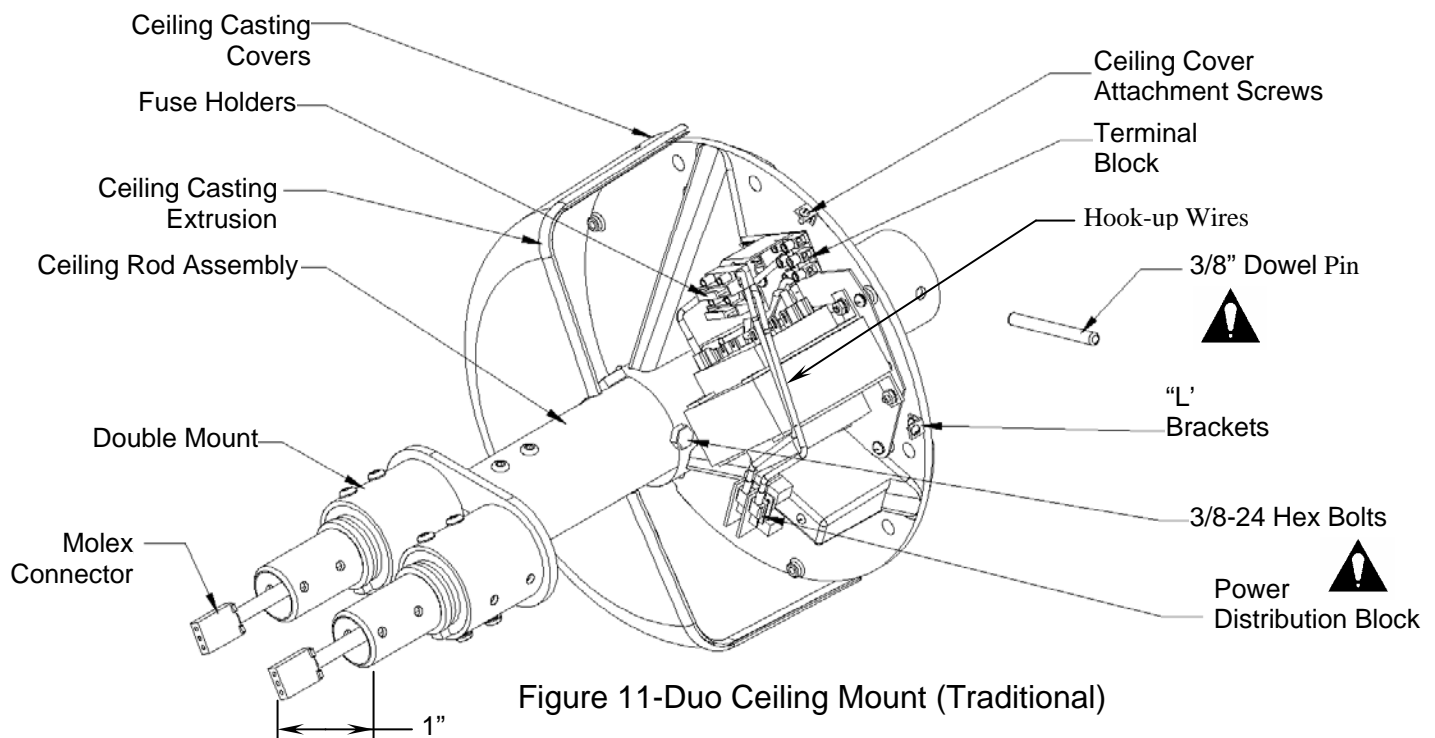

Figure 11-Duo Ceiling Mount (Traditional)
- With the ceiling casting laying on the floor or on a bench, slide the ceiling rod into the hole in the ceiling casting in the direction shown in Figure 11. Push the rod through the casting exposing the hole at the end of the rod.
- Install hook-up wires from new ballast assembly to power distribution block. These wires are supplied with the hardware kit (See figure 11, Page 18).